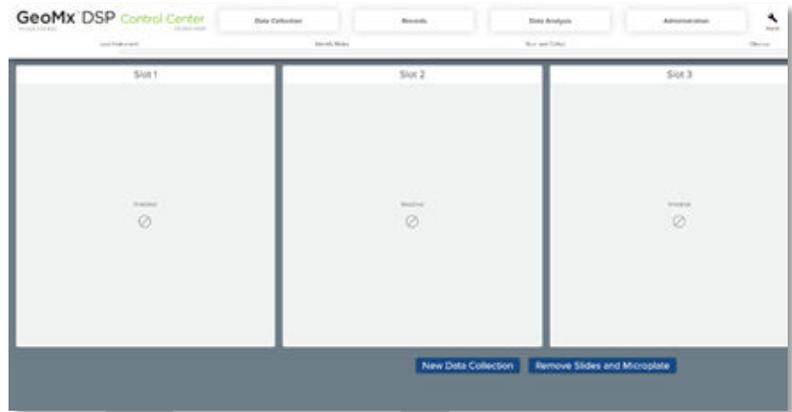

Figure 6: Collection Complete idle state
4. Click **OK**. Now, the instrument is at the Collection Complete idle state (Figure 6).